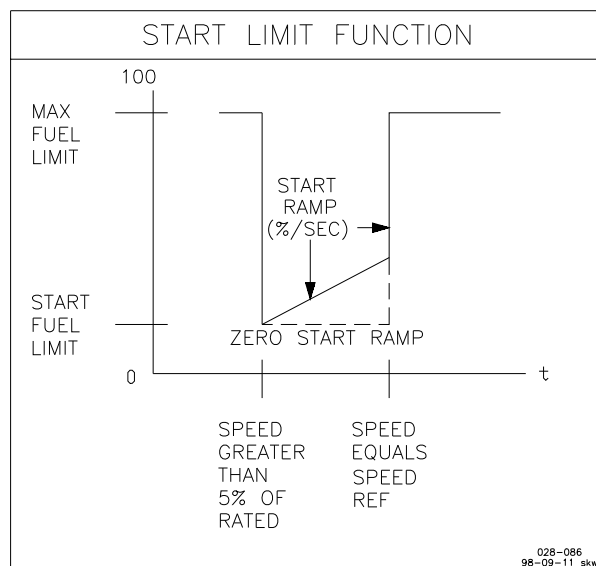

Figure 3-7. Start Limit Function
1. **START FUEL LIMIT** limits the percent fuel demand when the engine is started. The limit is usually set at the fuel level required to start the engine. The limiter is disabled when the engine speed exceeds 95% of speed reference (see Figure 3-7). Set at 100% to disable the limit function.